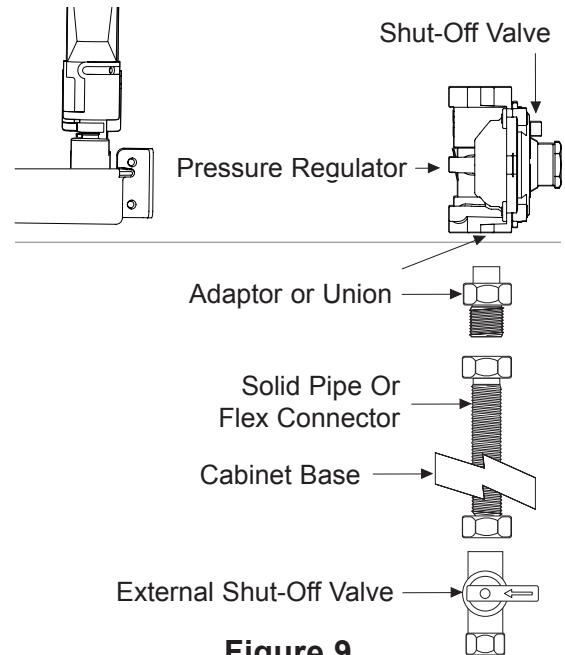

Figure 9
7. Connection to Gas (see Figure 9)